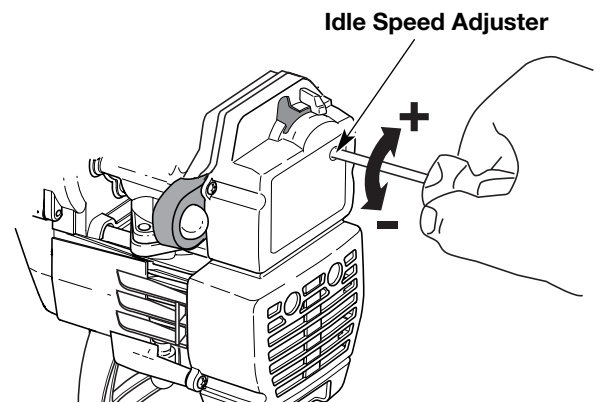

Fig. 17
The engine's idle speed adjuster is adjustable through the air filter/muffler cover (Fig 17).
2. Release the throttle control and let the engine idle. If the engine stops, insert a small phillips screwdriver into the hole in the muffler cover (Fig. 17). Turn the idle speed screw **clockwise** 1/8 of a turn at a time (as needed) until the engine idles smoothly.